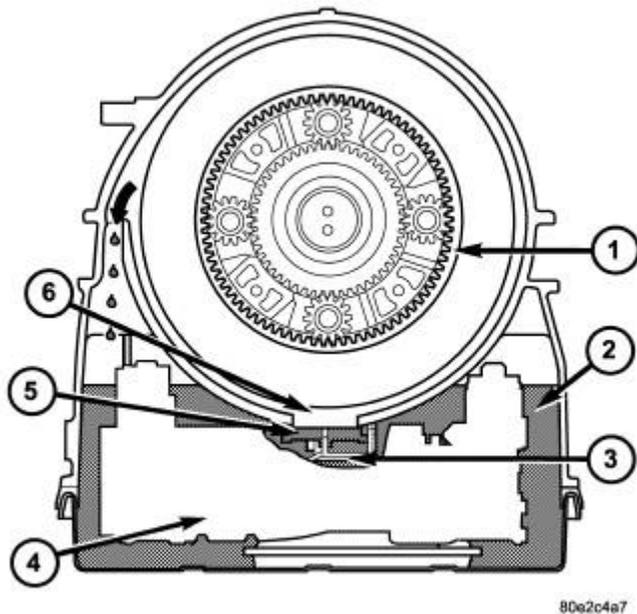

Fig. 160: Fluid Level Control
With low oil levels, the lubricating oil which flows constantly out of the gearset, flows back to oil gallery (2) through the opening (6). If the oil level rises, the oil presses the float (5) against the housing opening (6). Refer to **Fig. 160**. The float (5) therefore separates the oil gallery (2) from the gearset chamber (1). The lubricating oil which continues to flow out of the gears is thrown against the housing wall, incorporated by the rotating parts and flows back into the oil gallery (2) through the upper opening (arrow).